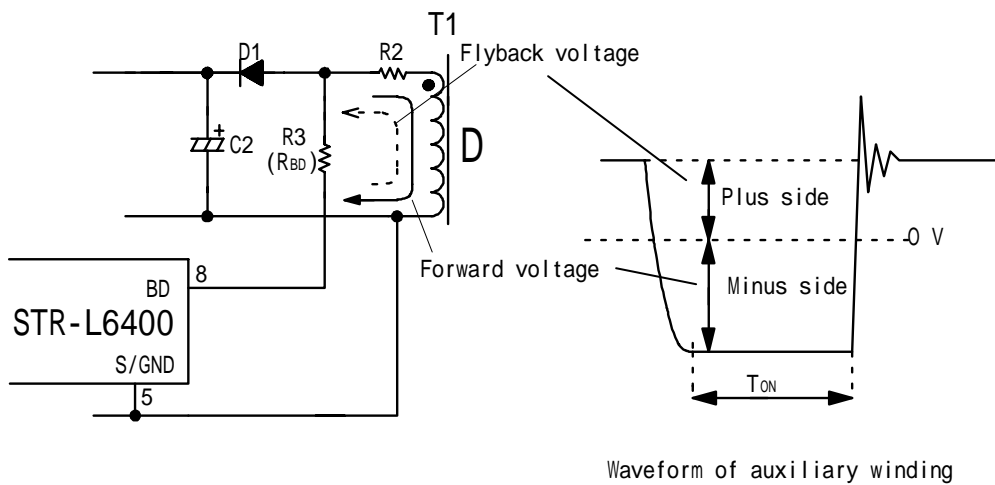

Fig.7-17 BD terminal peripheral circuit and auxiliary winding voltage
Fig.7-17 shows the peripheral circuit for BD terminal and auxiliary winding voltage. After limiting the current of plus side (fly-back side) waveform generated on auxiliary winding by  $R3(R_{BD})$ , the plus side voltage is input to BD terminal.
As the value of OCP detection resistor, R1 (ROCP), is fixed, the above influence causes that the OCP operation point shifts to the more overload side in the higher input voltage range. Comparing with the OCP operation point, which is adjusted under the condition of the minimum input voltage of AC100V range and the maximum load, the operation point in AC230V range shall shift around double. To suppress this phenomenon, the OCP threshold voltage is possible to be switched, by sinking the current more than 500μA (TYP) from BD terminal through R3 (RBD) during the TON period, using the forward (minus) voltage of auxiliary winding shown in fig.7-17.
- The maximum absolute rating of BD terminal is ±2mA. When R3(RBD) is 39kΩ, the current at the minus side on the auxiliary winding voltage in fig.7-17 is - 870μA at maximum input voltage, and the current at the plus side is 300μA because of 18V output (auxiliary winding voltage) and 6.3V (BD terminal clamp voltage). Both of them are confirmed to be within the above range.